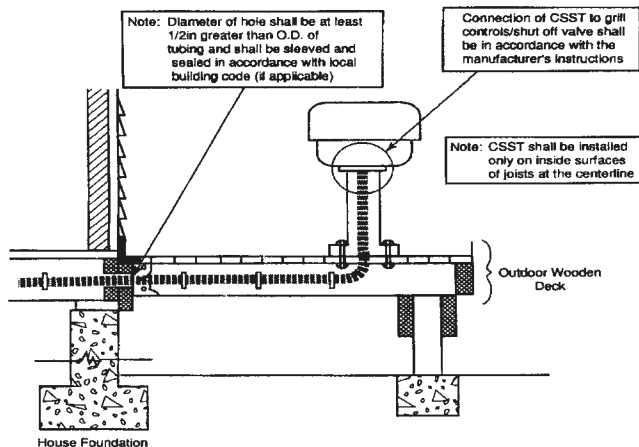

Figure: 4-20
2. Permanently mounted grills located on decks shall be connected with the **TracPipe**® system as shown in Figure: 4-20 and in accordance with this guide. The outdoor portion of the piping shall be supported against the side of any of the inside deck joists. If the elevation of the deck is below the top of the foundation, any exposed piping shall be protected using water-tight non-metallic conduit.
3. Permanently mounted lights located on decks shall be connected to the piping system the same as permanently mounted grills shown in Figure: 4-20 and in accordance with the manufacturer's instructions.